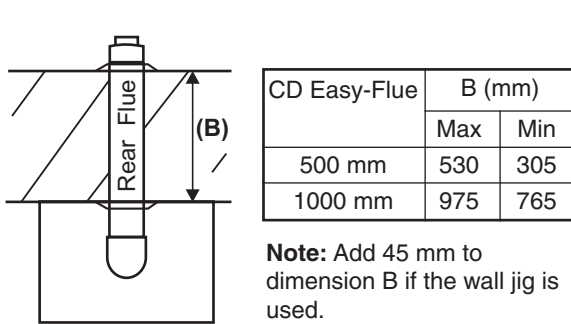

Fig. 5.5
5.6 FIT THE FLUE - Figs. 5.5 and 5.6
- When the flue length required is more than the maximum stated in Section 4.6, paragraph 1, refer to the table below and Figs 5.5 and 5.6.